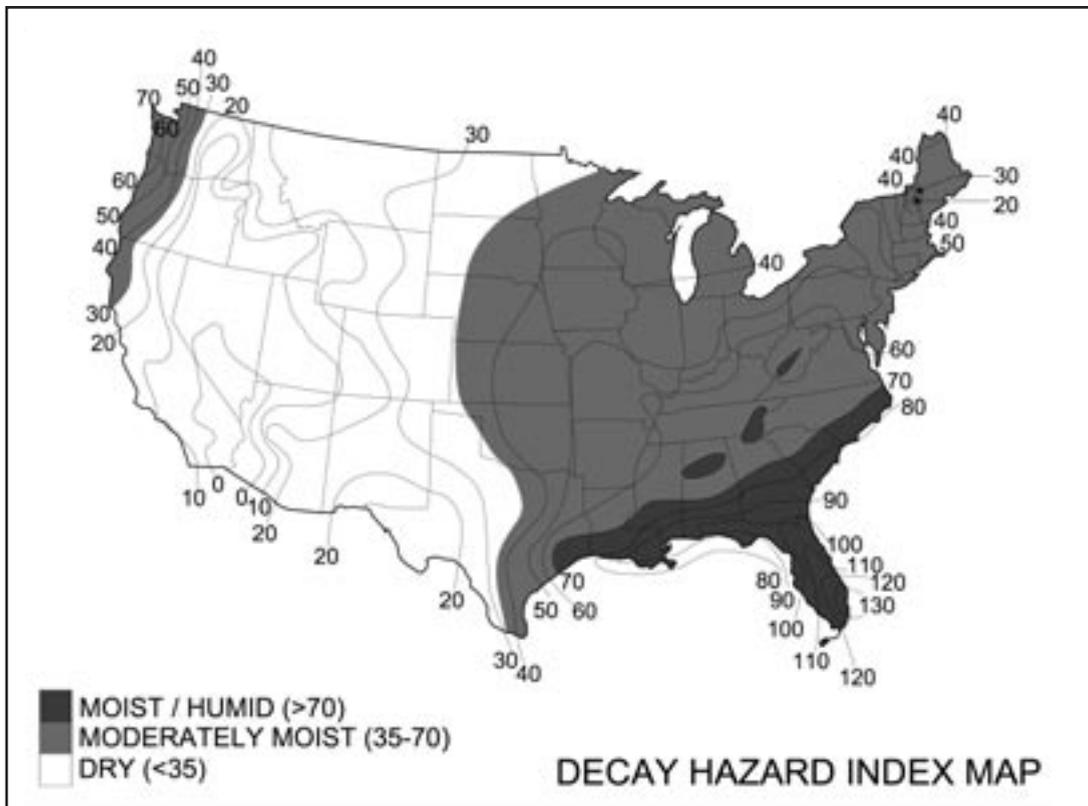

Figure 30 – Decay Hazard Index Map
The Decay Hazard Index of Figure 30 reflects the moistness of the climate in terms of the potential for wood decay. It is indirectly related to frequent high outdoor humidity levels. For the purpose of discussion of concepts and best practices in this guide, the following moisture-related climate zones are
*Therefore, a general range of 10-15% moisture content (MC) should be confirmed before closing in assemblies and finishing. And to prevent differential shrinkage of materials and finish damage, it's also recommended that wood be within about 5% of the wood equilibrium moisture content (EMC) conditions for the region.* So in areas like the desert southwest where equilibrium moisture content would be roughly 5-6%, you'd want lumber at a maximum MC of 10% before finishing. Using the Decay Hazard Index Map in Figure 30 as a rough indicator of EMC, the following upper limits for lumber moisture before finishing occurs can be used as approximate targets:
In moist/humid climates (see Figure 30) the primary concern is preventing exterior warm-humid air from leaking inward through exterior surfaces into building envelope assemblies that will be cool from air-conditioning. *In moist/humid climates an air barrier system is preferred on the outside of the wall. Many exterior sheathing products and wraps can provide this function and also serve the water barrier function underneath siding materials (e.g., ASA and AWA methods).*